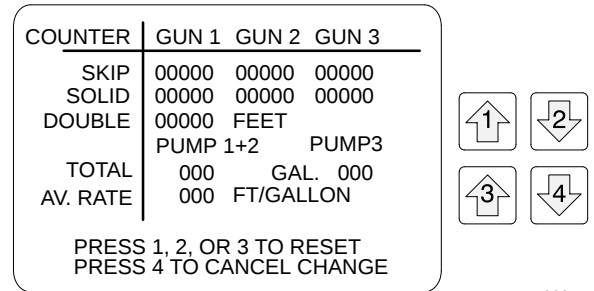

Fig. 5
10. The control will now display the gallons of paint used for either pumps 1 and 2, or pump 3. The control will also display the average rate which paint is applied. Fig 5.